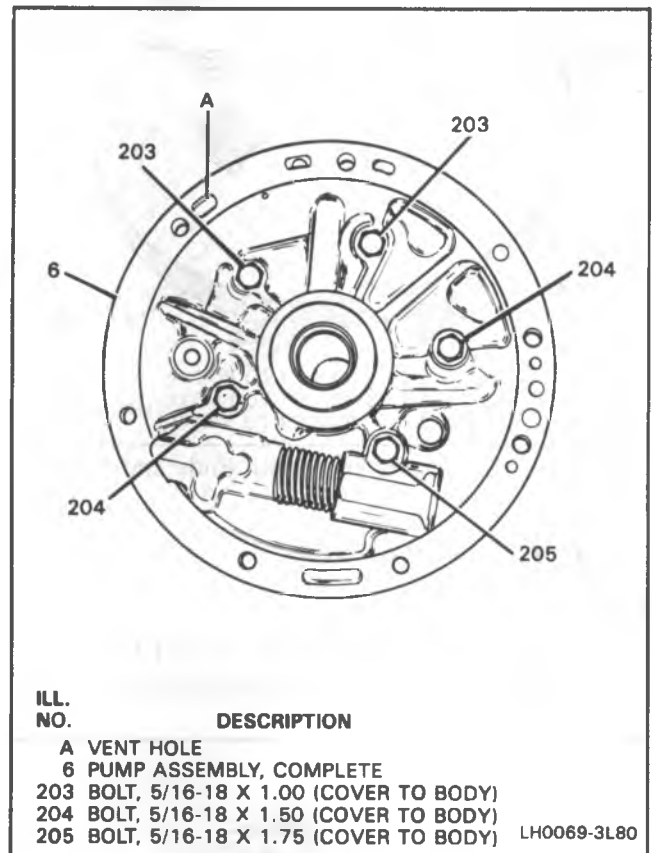

Figure 69 — Pump Cover Attaching Screws
- Bushings (220) and (206) for:
- Pressure regulator (217) and boost regulator valves (213) for:
- Vent hole in pump cover blocked (Figure 69).